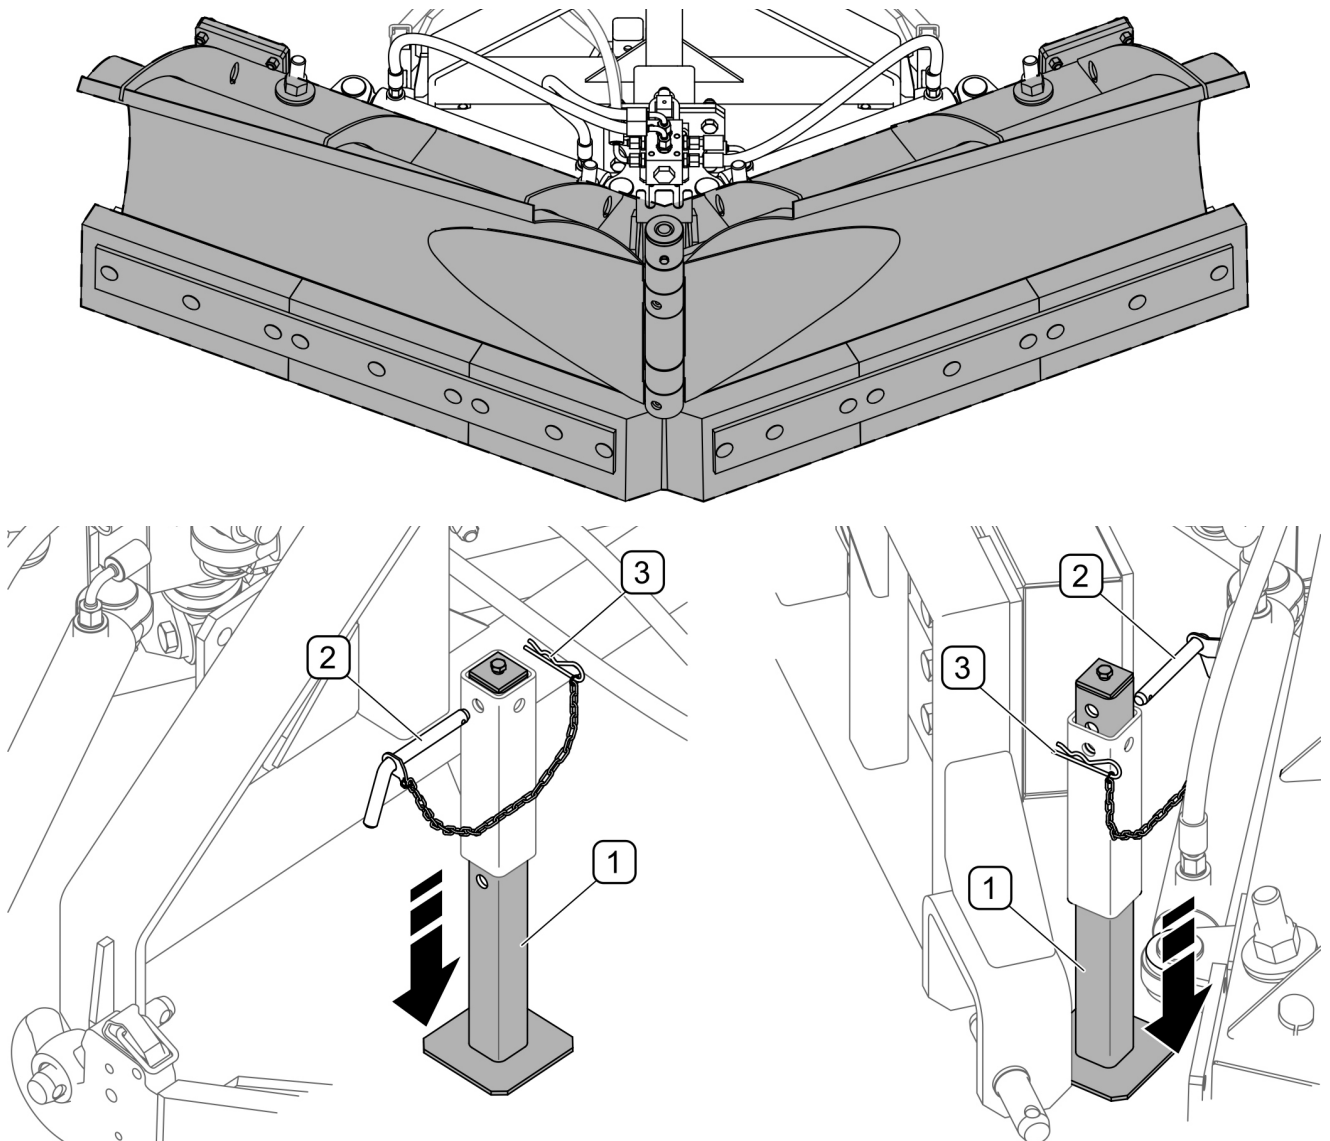

FIGURE 4.11 Disconnecting from tractor
- position plough so that blades are folded to the rear. (FIGURE 4.11)
- remove the linchpin (3) and pin (2), lower the stand (1) (if any), set at the correct height and lock,